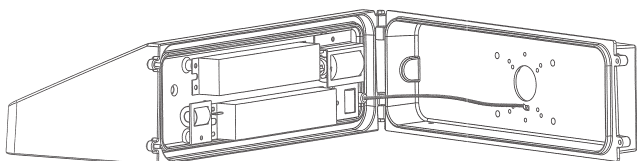

FIGURE 1
- An alternate method of mounting the back cover over a recessed-mounted outlet box is to position back cover over the box and securely mount with lag bolts (not provided) through the holes provided in the back cover (see *Figure 1*).